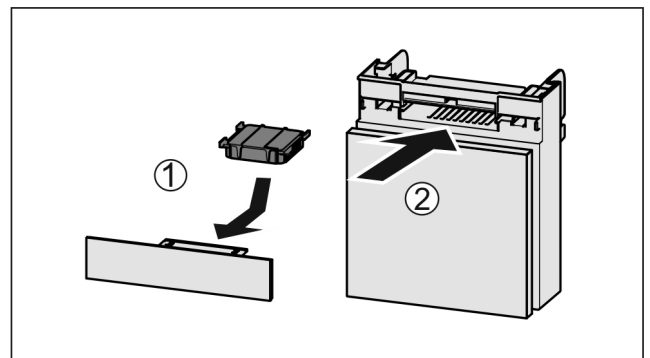

Fig. 139
- ▶ Insert the carbon filter as shown in the diagram Fig. 139 (1).
- ▶ Push the compartment in Fig. 139 (2).